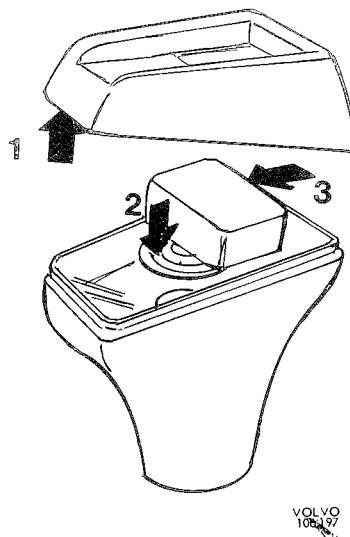

Fig. 4-119. Disassembling knob
2. With the help of a knife lever up at the front edge the cap (1) on the selector lever knob (see Fig. 4-119). Press down the spring washer (3) and push the button (20) forwards so that it releases from the push rod. Remove the washer and spring (4) and pull up the lower part of the selector lever knob (2).
3. Unscrew the retaining screws and lift off the shift positions console (7). Remove the bulb holder for the shift positions lamp (8). Unscrew and lift up the selector lever housing.
4. Release the nut and remove the lever (12). Remove the screws and take the bracket (17) off the selector lever housing (10).
5. Knock up the tubular studs. Remove the push rod (5) and inhibitor (19). Drive out the shaft (11). Release the screws from the gate (9). Drive out the bushings from the bracket (17).